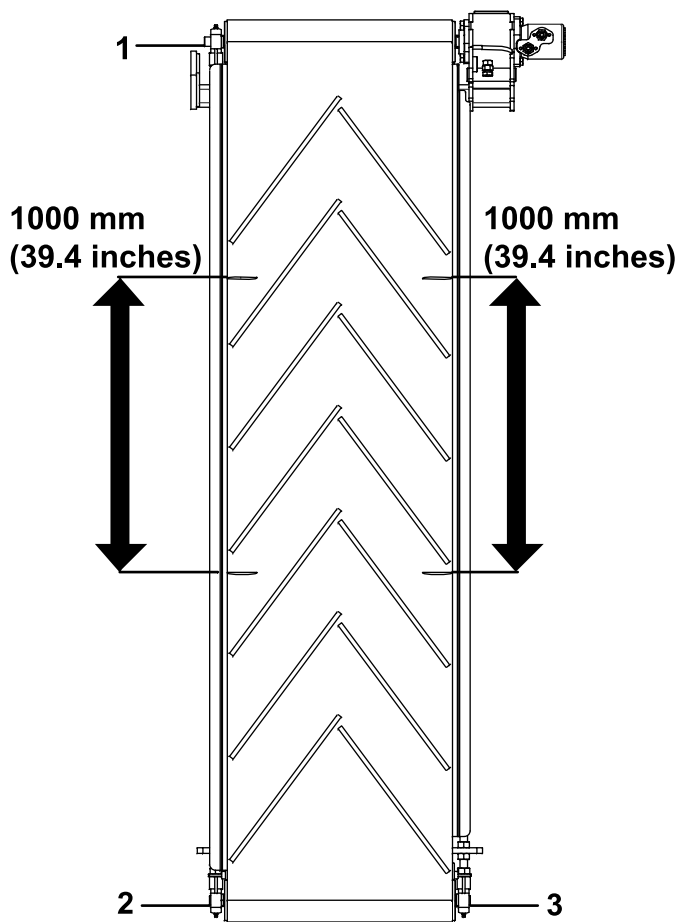

Figure 35
3. Mark both sides of the belt with 2 measurement marks a distance of 1000 mm (39-13/32 inch) apart; refer to Figure 35.